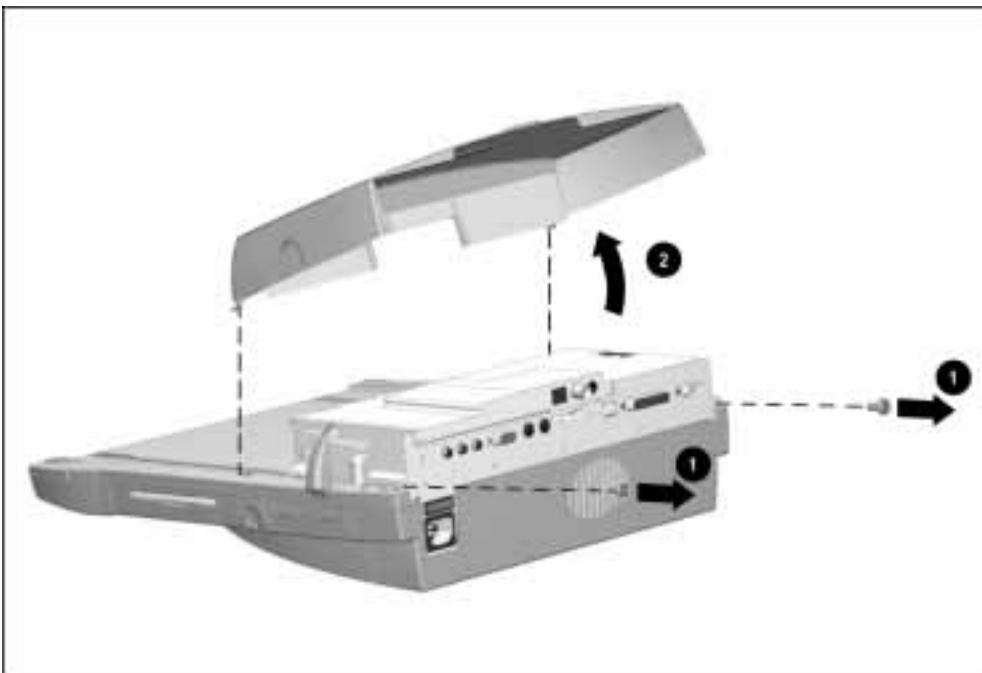

Figure 6-6. Removing the Enclosure Cover
3. Remove the two screws securing the enclosure cover to the module assembly ❶ (Figure 6-6).
4. Grasp the sides of the enclosure cover and swing it up and away ❷ until the tabs on the front of the enclosure cover clear the base assembly. Make sure the docking lever does not interfere with the removal of the enclosure cover.